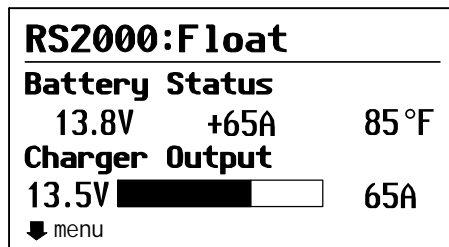

Figure 3-2 System screen (example)
- ◆ On the System screen (see Figure 3-2), press Enter.